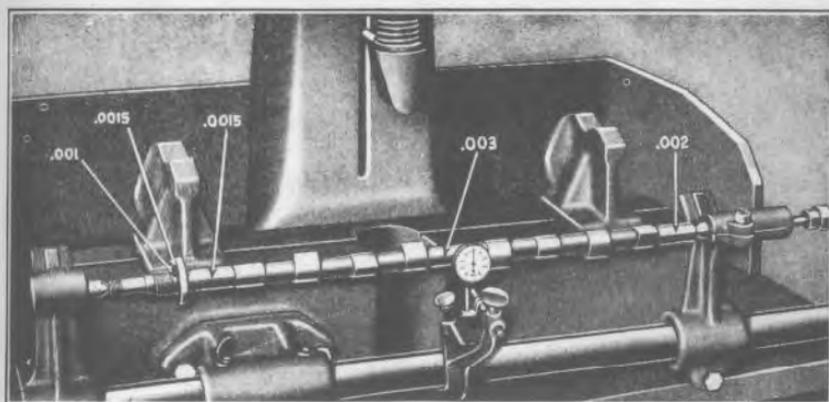
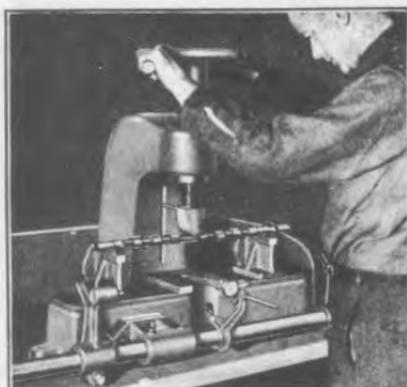

Fig. 286
Fig. 287
- 479 The alignment of the camshaft is checked by placing it on centers as shown in Fig. 286. Before placing shaft on centers inspect center holes in shaft to see that they are free from dirt or burrs. Scrape out any burr or dirt which may be in the center holes, as any foreign matter in the holes is likely to cause the shaft to run out. The amount the shaft runs out is measured by a dial indicator reading in one thousandths of an inch. A ball point plunger rests on the bearings to be indicated; the shaft is then slowly turned, while the operator
watches the dial. Any slight variation in the surface of the shaft is noted by the movement of the hand on the dial. The camshaft should run out no more than the limits given in Fig. 286. The high side of the shaft should be noted and the shaft straightened in a press as shown in Fig. 287. When straightening a shaft it is always advisable to first bend it far enough in the opposite direction to which it is bent, so that it will be distorted the other way. The shaft is then brought to normal from this side. This prevents any tendency of the shaft to spring out of line again.